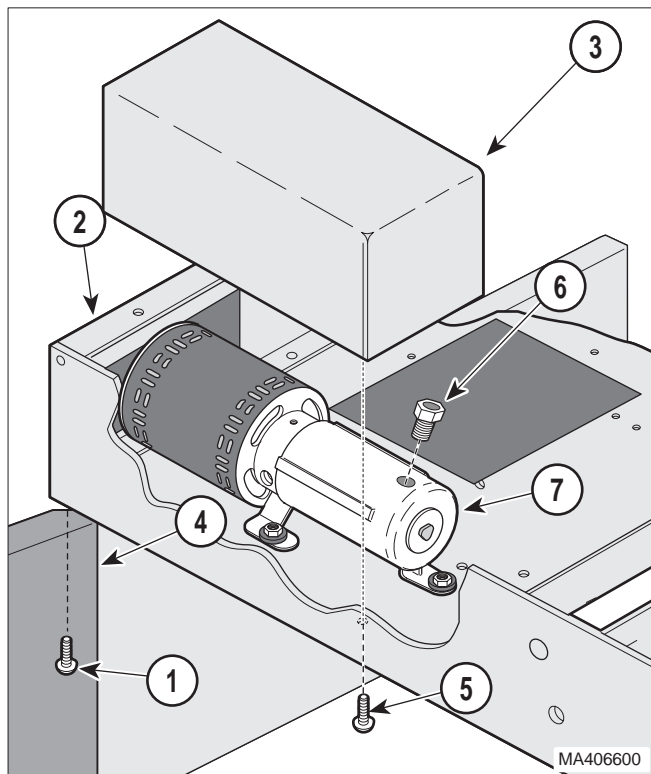
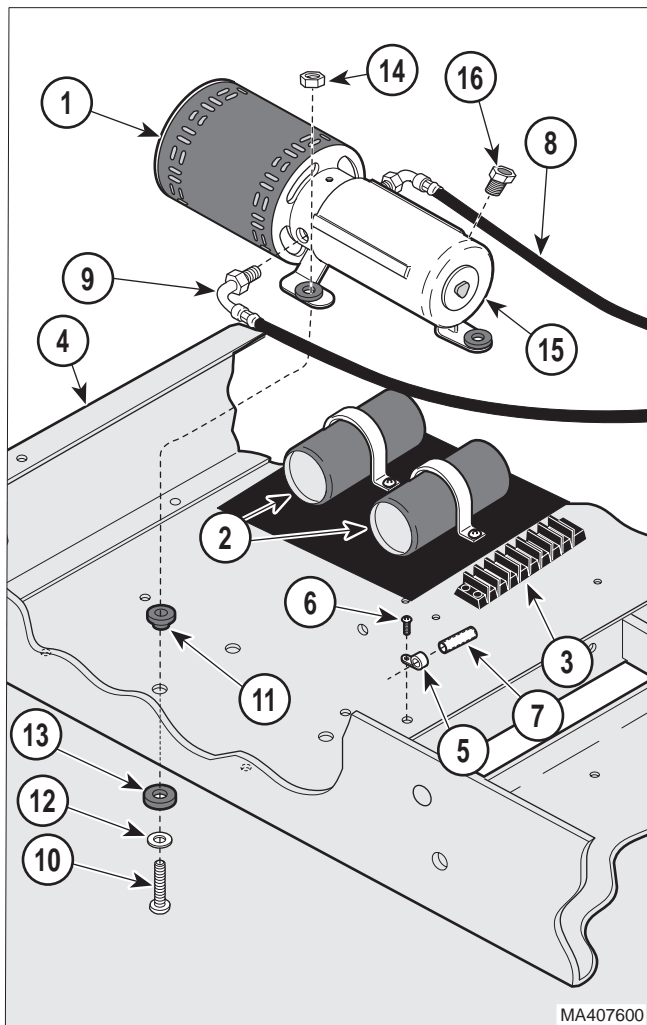

Figure 4-11. Checking Hydraulic Oil Level
Figure 4-12. Hydraulic Motor / Pump Removal / Installation
- (1) Access the motor / pump assembly (Refer to Para 4-8).
- (2) Remove the two screws (1, Fig. 4-11) located on the bottom, outside of the upper wrap assembly (2) at the head-end of the table, that secure the motor cover (3) to the upper wrap assembly (2).
- (3) Open the door (4) on the patient's right-hand side and remove the remaining two screws (5) located beneath the upper wrap assembly (2) that secure the motor cover (3) to the upper wrap assembly (2). Remove the motor cover (3).
- (4) Place location tags on the electrical leads or terminals where the motor / pump (1, Fig. 4-12) is connected for later reassembly.
- (5) Disconnect motor / pump electrical leads from the capacitors (2) and terminal board (3) and remove the ground wire connected to the upper wrap assembly (4).
- (1) Place the motor / pump (1, Fig. 4-12) in position on the vibration mount bushings (11) on the upper wrap assembly (4).
- (2) Secure the motor / pump (1) to the upper wrap assembly (4) with the three screws (10), flat washers (12), vibration mount rings (13) and lock nuts (14). Tighten the nuts (14) until the vibration mounts (11) are just *slightly* compressed.
- (3) Remove the shipping plugs from the ports on the motor / pump (1) and connect the return hose (9) and power hose (8).